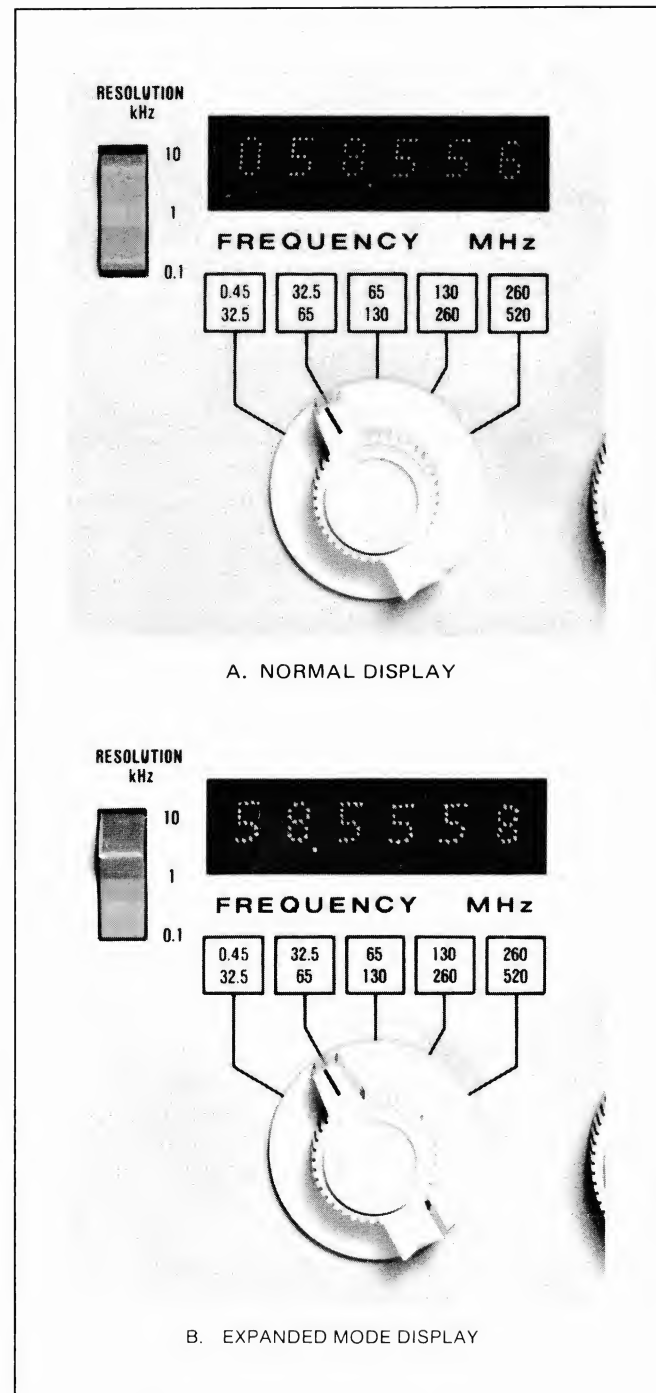

Figure 1-4 LED Frequency Display
c. LED Frequency Display. The output frequency of the Model 102D is continually displayed during use by means of a 6-digit LED display. The elimination of a tuning dial, with its recalibration problems and inherent reading uncertainty, removes a major source of operator error. The LED display provides clear, unambiguous readings with selectable resolution, minimizing the possibility of misinterpretation. (See Figure 1-4.) Resolution of 0.1, 1, or 10 kHz can be selected by means of a front-panel switch.